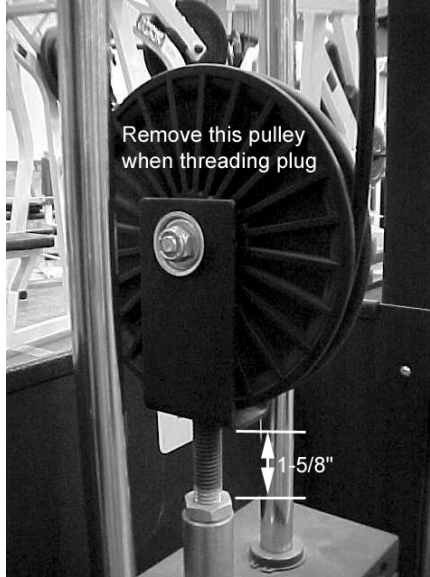

Figure 12. Bolt the floating pulleys into the 190 lb weight stacks.
- Using a 7/8" combination wrench, bolt the floating pulleys into the 190 lb weight stacks (except for the tricep pushdown weight stack- the one with the tricep back rest mounted to the frame as shown in Figure 10). You will need to remove the pulley from the housing to thread the plug into the weight stack bayonet. Make sure the 9/16" jam nut is threaded 1-5/8" away from the pulley as shown in Figure 12. Leave the pulleys out since you will need to have them out when the cable is routed.